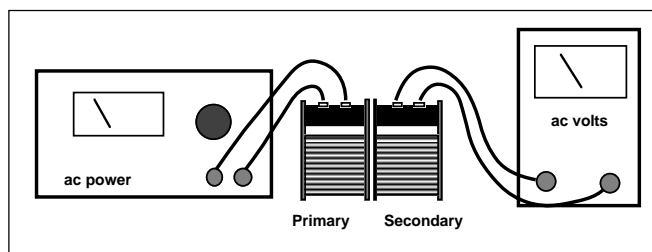

Figure 1
1. Set up the coils and core as shown in Figure 1. In the diagram, the coil to the left will be referred to as the primary coil, and the one to the right will be the secondary coil. Note that we are putting in an alternating current to the primary at one voltage level, and reading the output at the secondary.